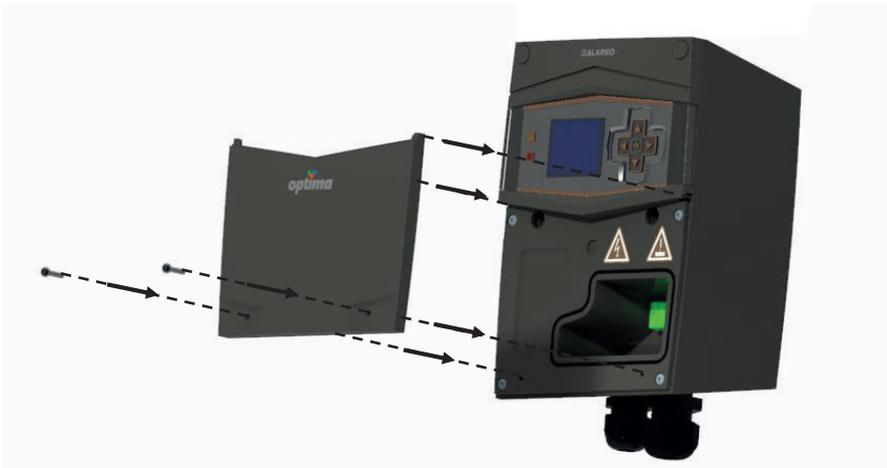

Figure 6.11: Refitting the Bottom Cover
8. Refit the cover. Figure 6.11.